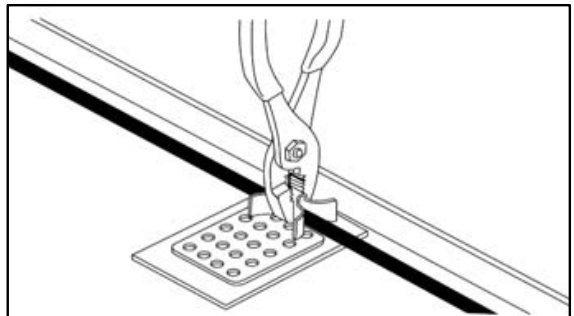

Figure 9.
5. Install deicing cable and use pliers to close clamps, ensuring not the damage cable. See Figure 9.